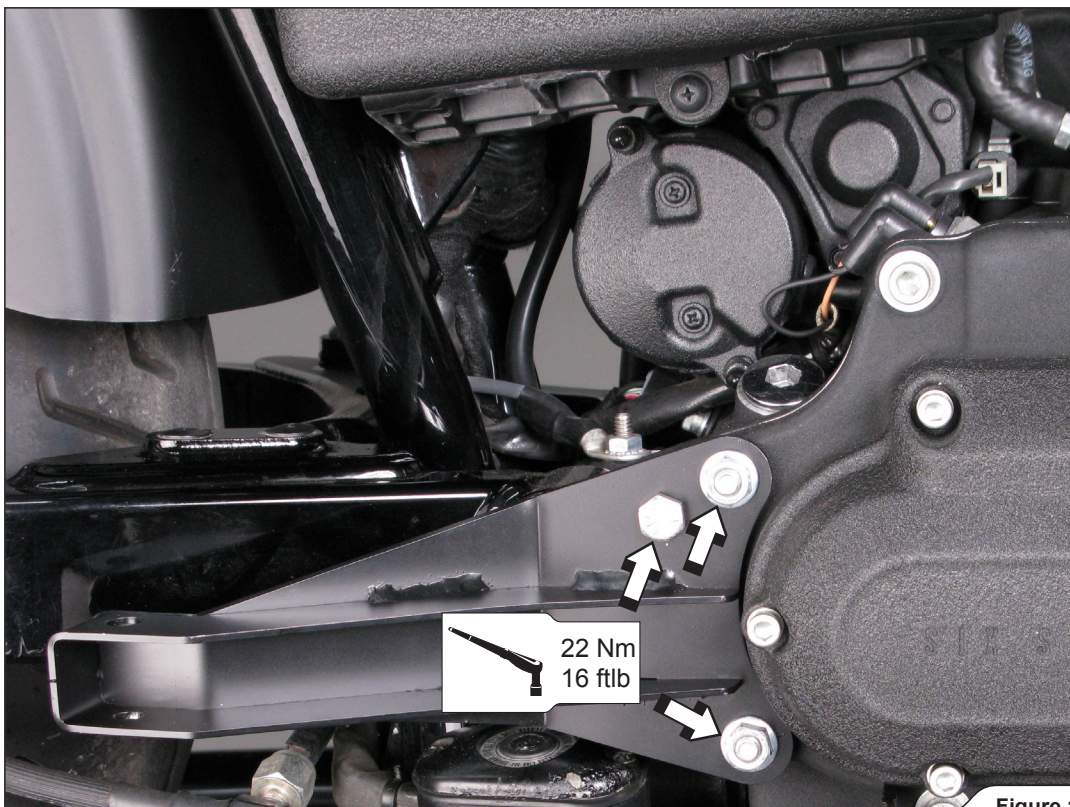

Figure 1
1. **For models with welded tubing original rear muffler's bracket only:** screw the rear muffler's Akrapovič bracket onto the transmission housing, using original nuts and bolt (Figure 1).